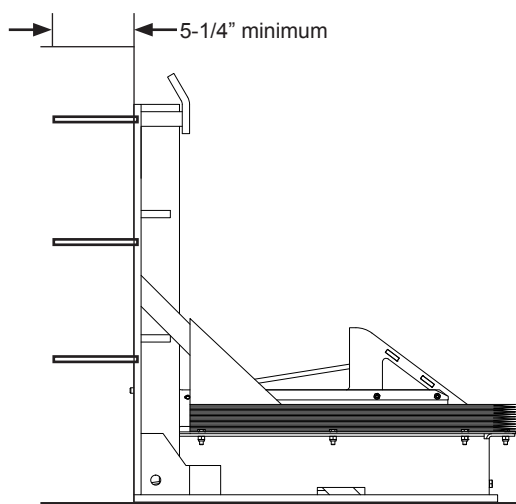

Figure 8
Using back plate as a guide, drill six (6) holes for wedge anchors (3/4" x 5-14" min, see Figure 8). Install anchors.